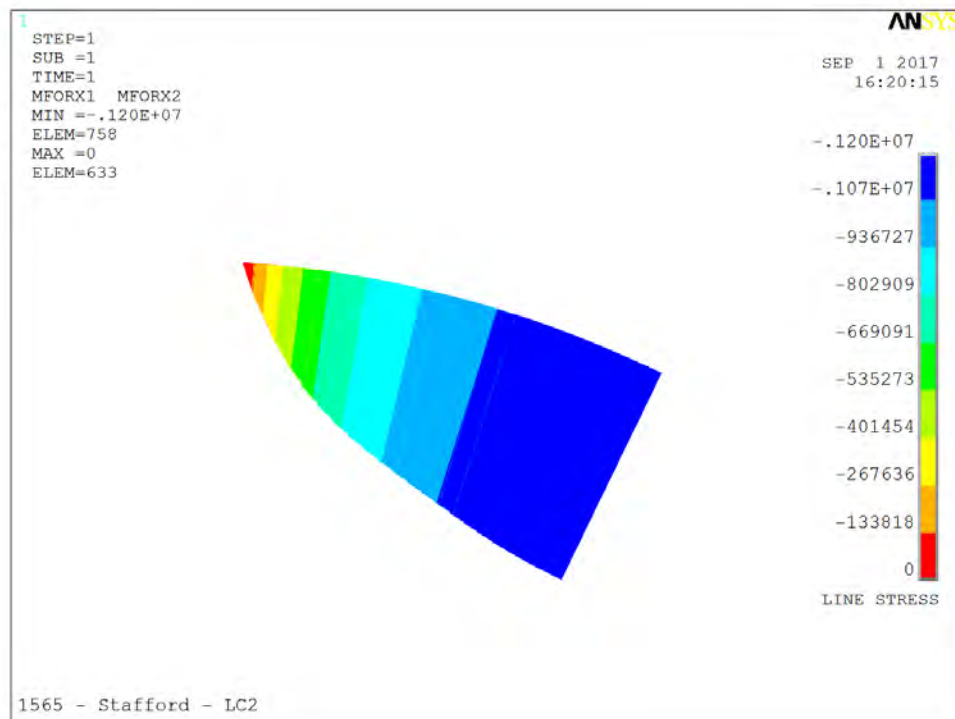

Fig. 2A
- **Fig. 2A - Dome axial force (lbs/360)**